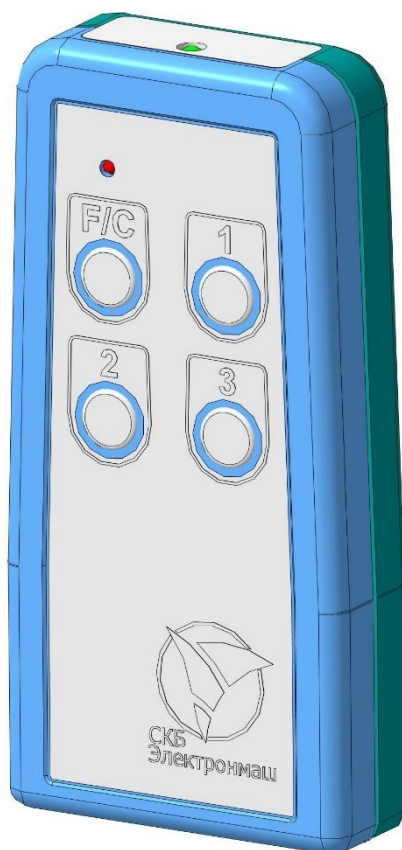

Figure 1 - Appearance of the remote control
4.1 The remote control housing (Figure 1) has a compartment for installing power batteries. There are four control buttons "F/C", "1", "2", "3" and a mode indication LED on the case. A working IR-emitter is installed at the end of the housing.